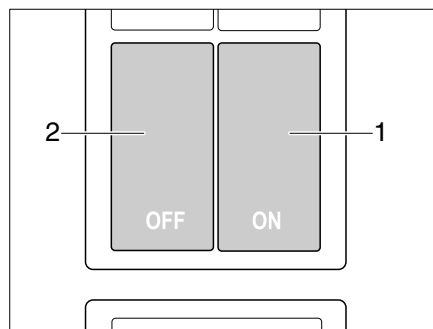

Fig. 16 Switch for the kitchen unit's central locking system
The kitchen unit is equipped with a central locking system. The flaps and drawers of the kitchen block can be locked and unlocked manually via the switch (Fig. 16).
- Press the switch (Fig. 16,2). The flaps and drawers of the kitchen block are locked.
- Press the switch (Fig. 16,1). The flaps and drawers of the kitchen block are unlocked.